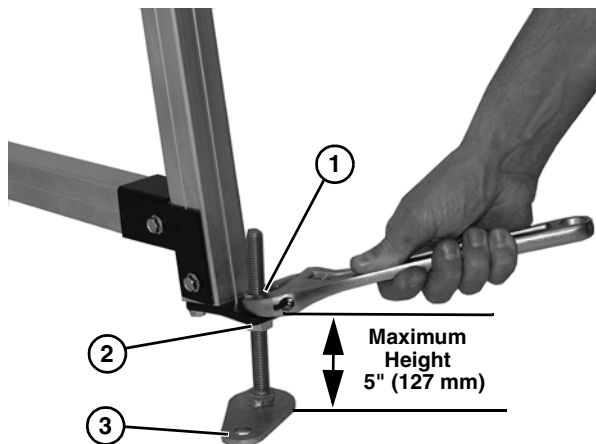

Figure 13
1. To adjust stand height, loosen the upper nut (**Figure 13, item 1**) on the foot stem. Rotate the lower nut (**Figure 13, item 2**) up or down to raise or lower the stand (**Figure 13, item 3**) to desired height.
4. Tighten the upper nut (**Figure 13, item 1**) on the foot stem to secure each foot assembly.